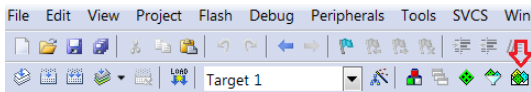

Figure 16. Pack Installer Icon
1. Open the Keil μ Vision IDE and navigate to **Project > Manage > Pack Installer** or click on the icon shown in Figure 16.